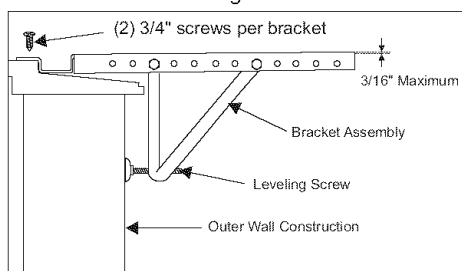
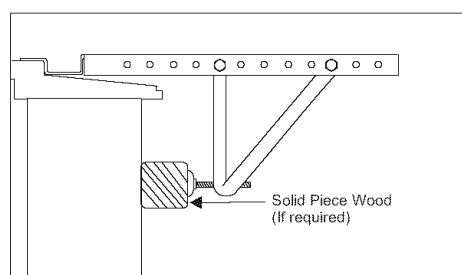

Fig. 7
Fig. 8
Two bolts per bracket. Secure with the (2) **1/4" lock washers** and (2) **1/4" nuts**. **DO NOT** immediately tighten these bolts as it may be necessary to adjust the depth of the **bracket assembly**, depending on the depth of your window sill. See (Fig. 7). Install the two **leveling screws** into the 90° support brackets. Test the bracket assembly in the window before cabinet installation. If the leveling screws are distanced too far away from the wall to provide stability, it may be necessary for you to fill this area with a solid piece of wood. See (Fig. 8).
C. For proper condensation run-off it will be necessary to adjust the angle/pitch of the window brackets. This is accomplished by adjusting the distance of the leveling screw on the outer wall. The maximum angle/pitch should not exceed more than  $3/16"$ . See (Fig. 7).
Use a solid piece of wood to provide stability. This will be required when sills are extra deep. See (Fig. 8).
C. Check to make sure that the cabinet is slanted slightly downward on the outside. If necessary, re-adjust support bracket as shown in (Fig. 7).